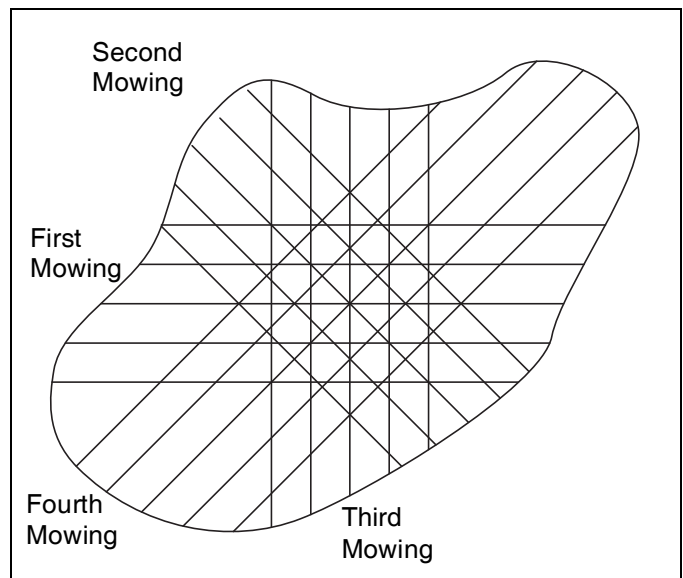

Figure 6F
5. For a more even playing surface and neater appearance, alter the mowing pattern each time a green is mowed. The patterns shown in **Figure 6F** are suggestions only, the operator or course superintendant can arrange patterns to suit each green.